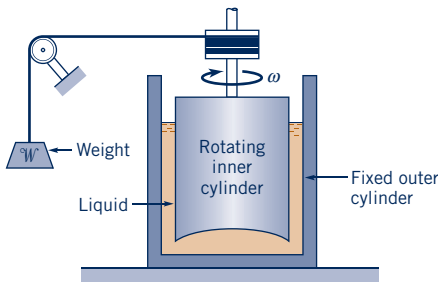

Figure P1.82
1.82 One type of rotating cylinder viscometer, called a *Stormer* viscometer, uses a falling weight, $\mathcal{W}$, to cause the cylinder to rotate with an angular velocity, ω , as illustrated in Fig. P1.82. For this device the viscosity, μ , of the liquid is related to $\mathcal{W}$ and ω through the equation $\mathcal{W} = K\mu\omega$, where K is a constant that depends only on the geometry (including the liquid depth) of the